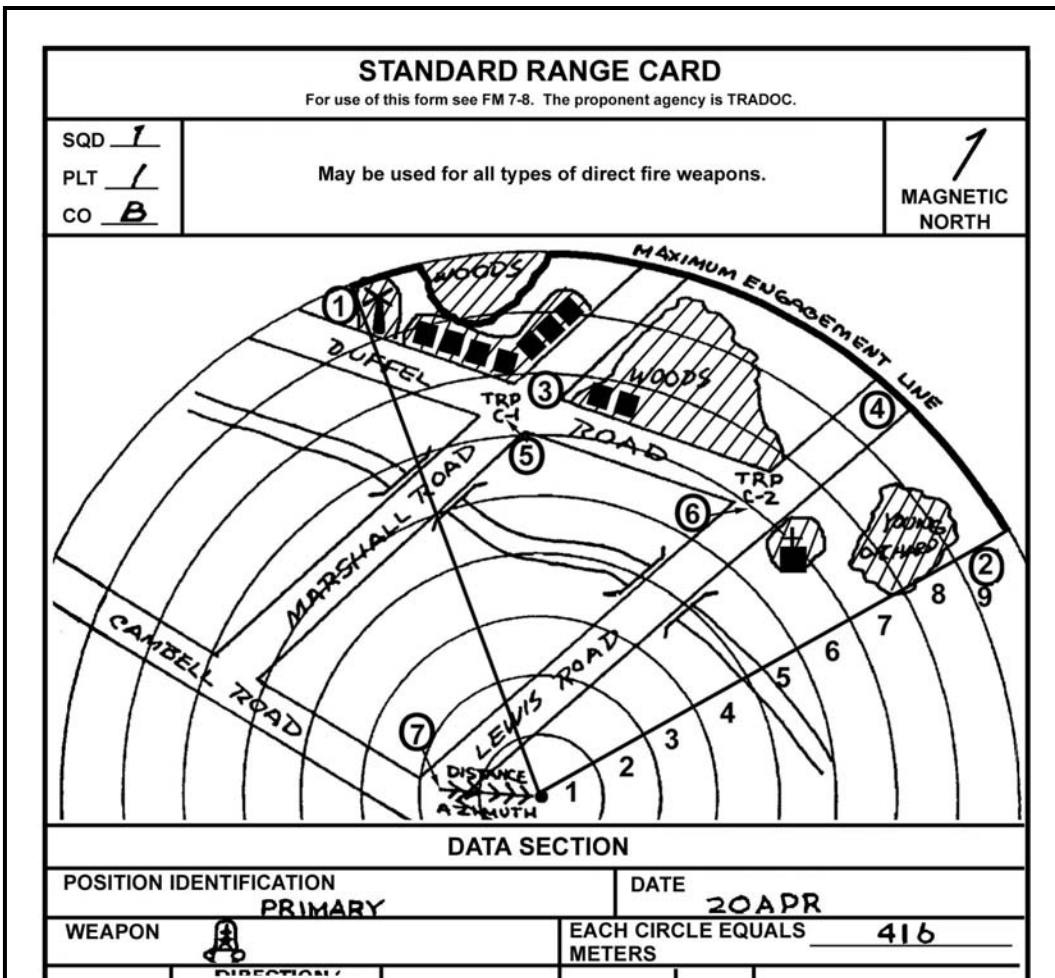

Figure D-10. Determining range interval on range card.
(4) **Each circle equals _____ meters.** Write the distance between the circles in meters. To determine the distance, count the intervals from the weapon to the maximum engagement line (as determined by the squad leader). Divide the amount of intervals into the range of the maximum engagement line. This will give the distance between circles (Figure D-10, page D-8).